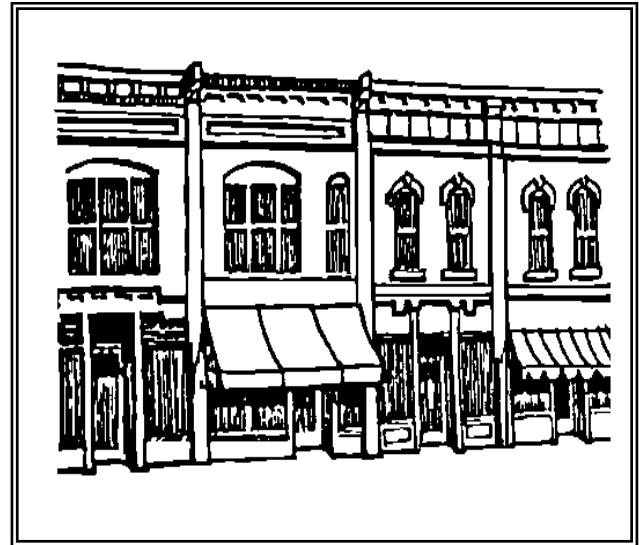

Figure 11, Awning Style
- ◆ **Style.** Awnings should be integrated into the design of the building façade, with a simple pitch, and profile that matches the buildings bay structure. Awnings along a street should have a consistent pattern in size and shape, and not conflict with others. Look at your neighbors' buildings and visualize how adding an awning will affect the character of the streetscape (See Figure 11).